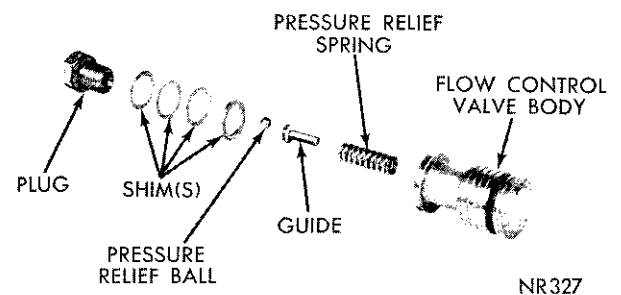

Fig. 33—Flow Control Valve Disassembled View
(1) Insert spring, guide and pressure relief ball in end of flow control valve (Fig. 33).
(2) Install hex head ball seat using the same number and thickness shims as were removed. Tighten to 50 inch pounds.
(3) Lubricate valve with power steering fluid and insert flow valve spring and valve in bore. Install new "O" ring on bore plug, lubricate with power steering fluid and carefully install into bore. Install snap ring. **CAUTION:** Do not depress the bore plug more than 1/16 inch beyond snap ring groove.